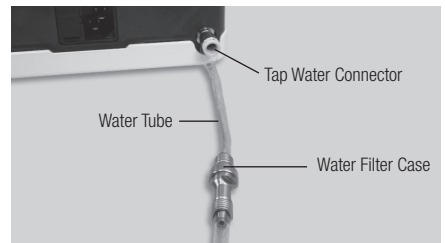

Fig.6
- 2) Connect the filter side of the Water Tube deep into the Control Unit Tap Water Connector (Fig. 6).